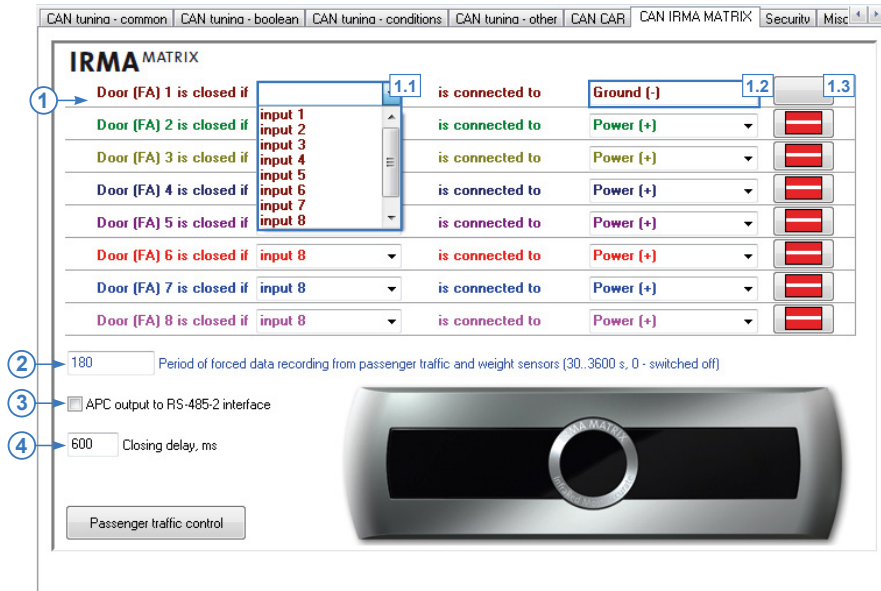

Fig.63. "CAN IRMA MATRIX" tab.
Go to the "CAN IRMA MATRIX" tab and enable CAN IRMA MATRIX option, if it is disabled. After that you will see menu for customizing of sensor operation (Fig.63).
- select a digital input of AutoGRAPH controller which a limit sensor of the selected door is connected to (Fig.63, i.1.1) or select the "vehicle is moving" option providing that the vehicle door is considered closed always when the vehicle is moving. The vehicle motion start is determined by vehicle speed and acceleration calculated at the basis of navigation data;
- if door closing is detected by digital input state of AutoGRAPH controller, select a state of the input associated with the closed door (Fig.63, i.1.2). When door is closed, a number of passengers passing through that door is considered zero;
- also it is recommended to set up digital inputs of AutoGRAPH controller used for detection of vehicle door opening and closing. To go to the tab intended to set up the device digital inputs, use the shortcut button (Fig.63, i.1.3);
- **Period of forced data recording from passenger traffic and weight sensors (Fig.63, i.2).**
- **“APC output to RS-485-2 interface” option (Fig.63, i.3).** This option provides transmission of data collected with passenger counting sensors to external device, connected to the AutoGRAPH device via RS-485-2 bus.
- **Closing delay (Fig.63, i.4).** This a delay of detecting the vehicle door closing by AutoGRAPH controller intended to filter short triggering of door limit switches. The closing delay must be specified in milliseconds.